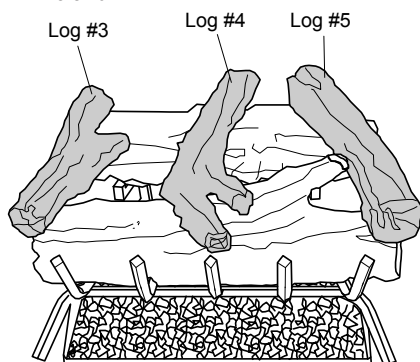

Figure 10 - Installing Logs #3, #4 & #5
3. Place remaining logs as shown in Figures 10 and 11.